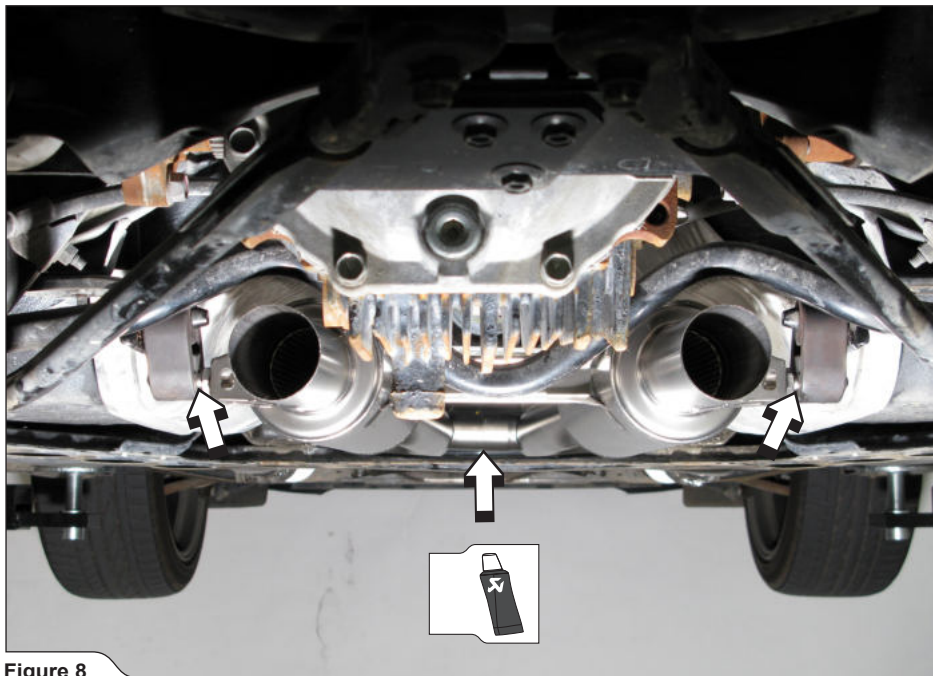

Figure 8
2. **For Evolution only:** join the interference crossover tubes and hang the front tubes on stock rubber brackets as shown (Figure 8).